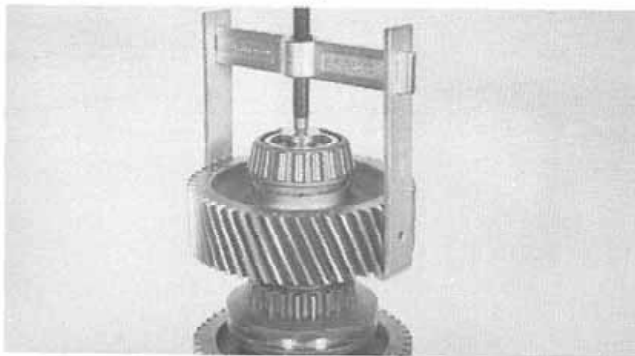
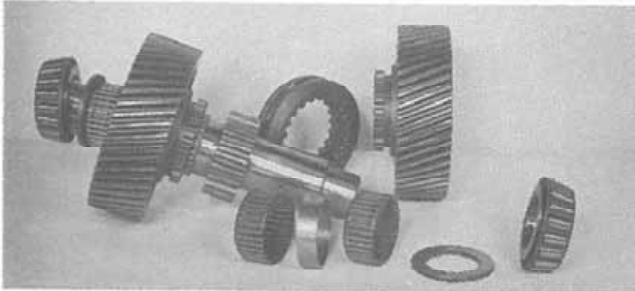

Figure 12:
Figure 13:
10. The input shaft/gear subassembly is disassembled by supporting the gear and pressing the bearing from the shaft (Fig. 12). Do this for each end. Gears, bearings, spacers and sliding clutch are now ready for removal (Fig. 13).